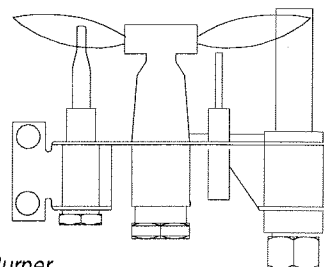

Figure 26. Pilot Burner
2. Adjust pilot screw to provide properly sized flame as shown in figure 26).